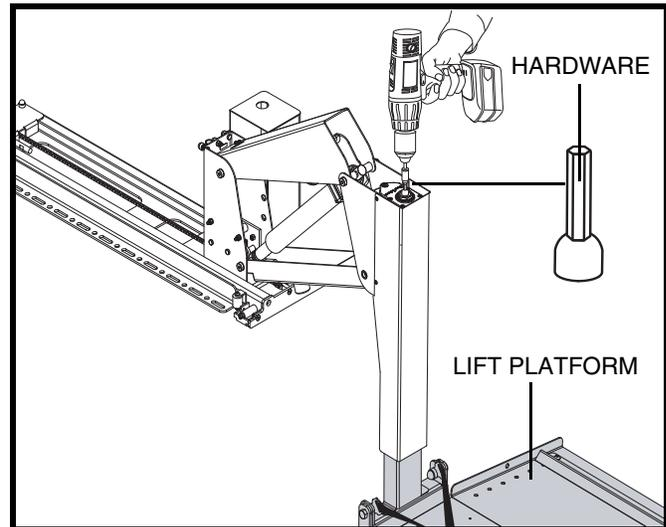
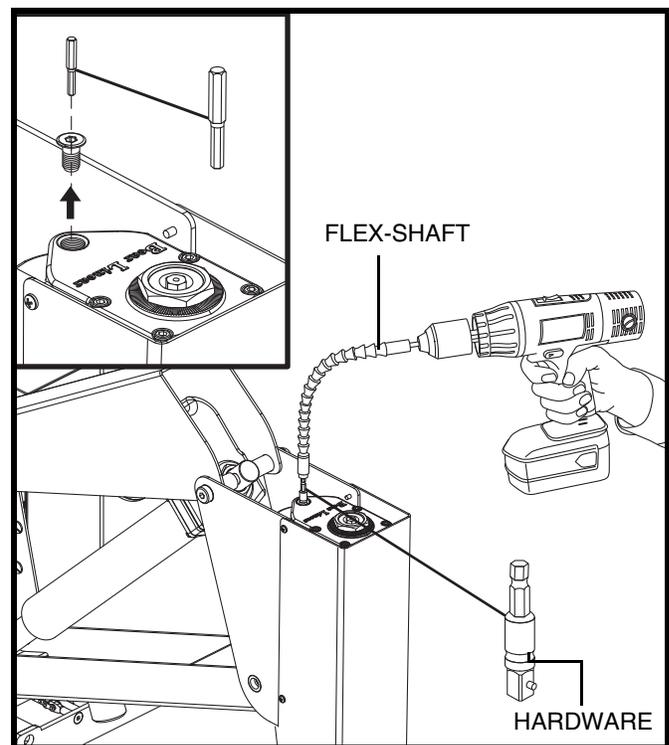

Figure 10. Raise Or Lower The Platform. DO NOT Use The Flex-Shaft For This Operation (Backpacker MV ONLY)
Figure 10A. Raise Or Lower The Platform (Remove Screw To Expose The Adjustment Opening) Backpacker MV ONLY
The Backpacker MV lift platform can be raised/lowered from two different adjustment points located at the top of the lift. The larger (front) adjustment opening (see **figure 10**) requires more energy but less revolutions to raise/lower the platform, while the smaller (rear) adjustment opening (see **figure 10A**) needs less energy but more revolutions.
NOTE: *Some MV lifts have only a single adjustment opening on the motor. See figure 10 B.*
PROHIBITED! DO NOT use the flex-shaft when manually raising or lowering the lift platform while using the method illustrated in **figure 10**. Attach the needed hardware directly to the drill.
1. Secure the appropriate end of the flex-shaft to a drill, and depending on which part of the lift you want to move, attach the appropriate hardware to the other end of the flex-shaft. See **figures 10, 10A, 10B, 11, and 12**.